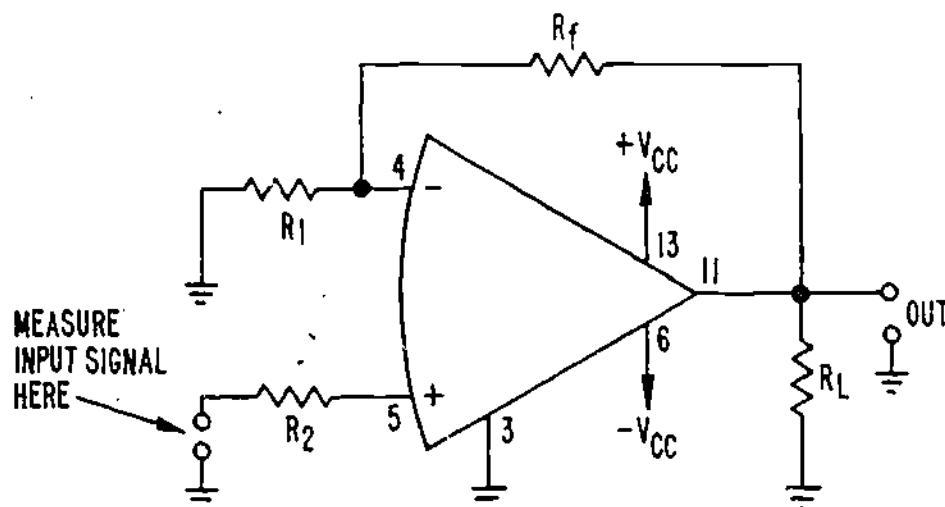

Figure 13
- ⑬ Although the feedback signal does not externally subtract from the input signal in non-inverting opamps, the input resistor may still cause a signal voltage drop. For this reason, the input signal to a non-inverting IC opamp should also be measured at the circuit's input as shown in Figure 13.